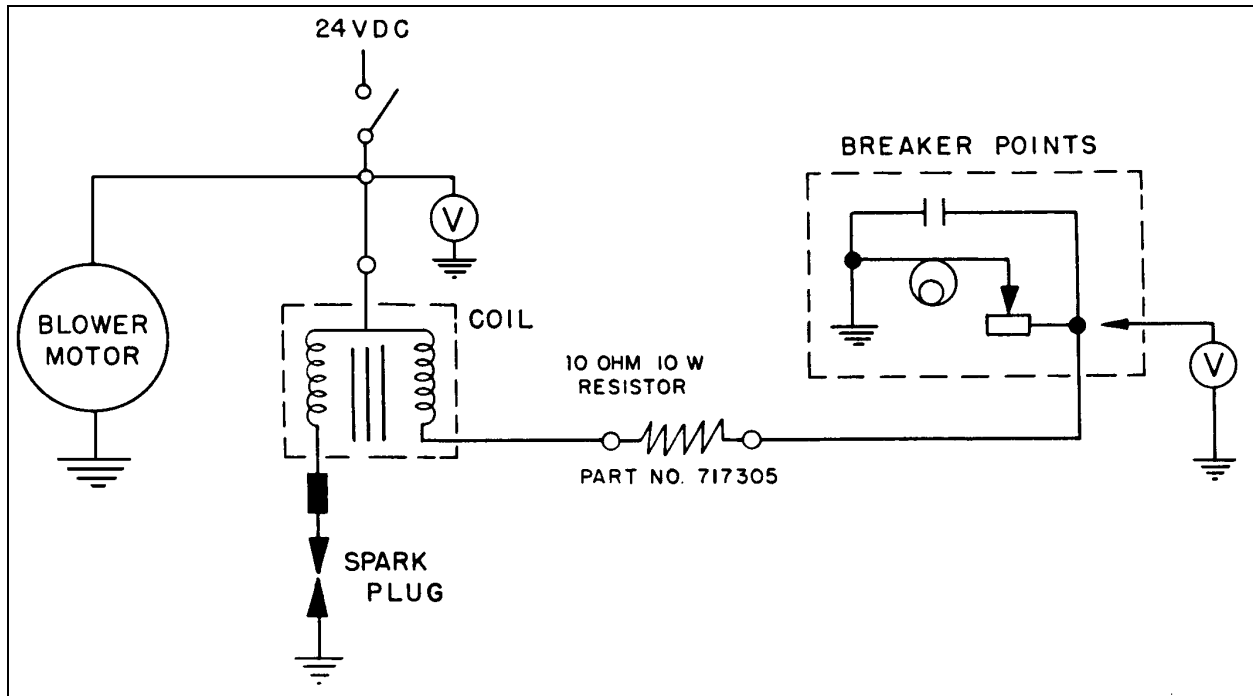

Figure 15 - Ignition Test Wiring (Heater with breaker points)
1. Construct a fixture as shown in Figure 15, with provision to operate the ventilating air blower, coil, breaker points, and spark plug. This test should be conducted with a new spark plug, but the coil and blower of the heater under test should be used.